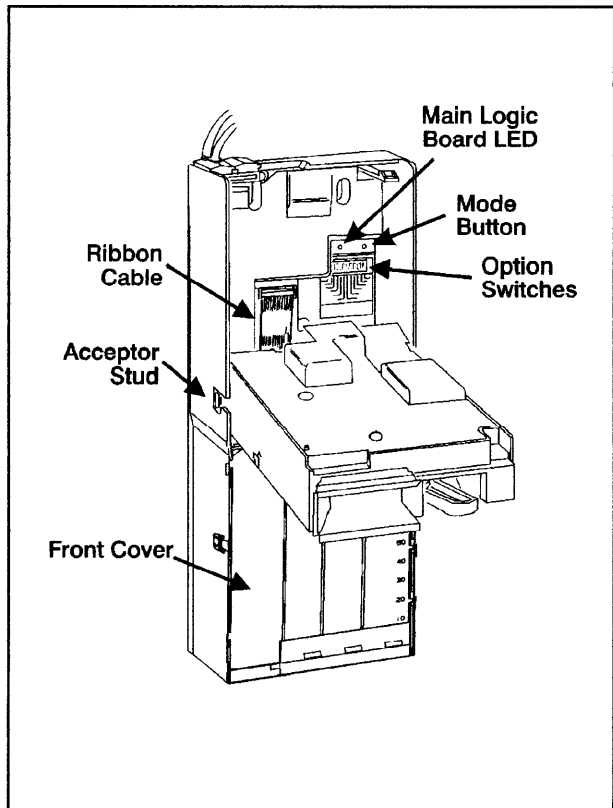

Figure 2
4. Re-install the acceptor by inserting the lower acceptor studs into the changer housing guides. Plug the ribbon cable into the changer (see figure 2).
Located behind the acceptor in the middle right hand side of the changer housing are twelve switches (see Figure 2). The vend price is set using the first eight switches, the last four switches are used to enable or disable different options.